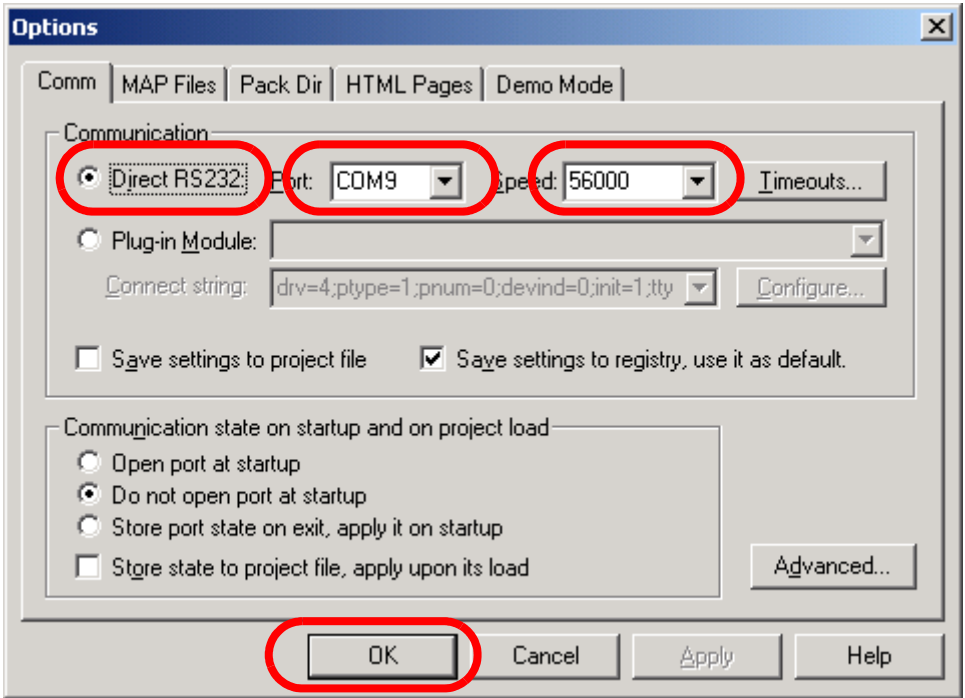

Figure 3. FreeMASTER communication settings
3. The “Option” window will appear. On the first tab “Comm,” select the communication port that is assigned to the USB-to-Serial cable, as shown in Figure 3.